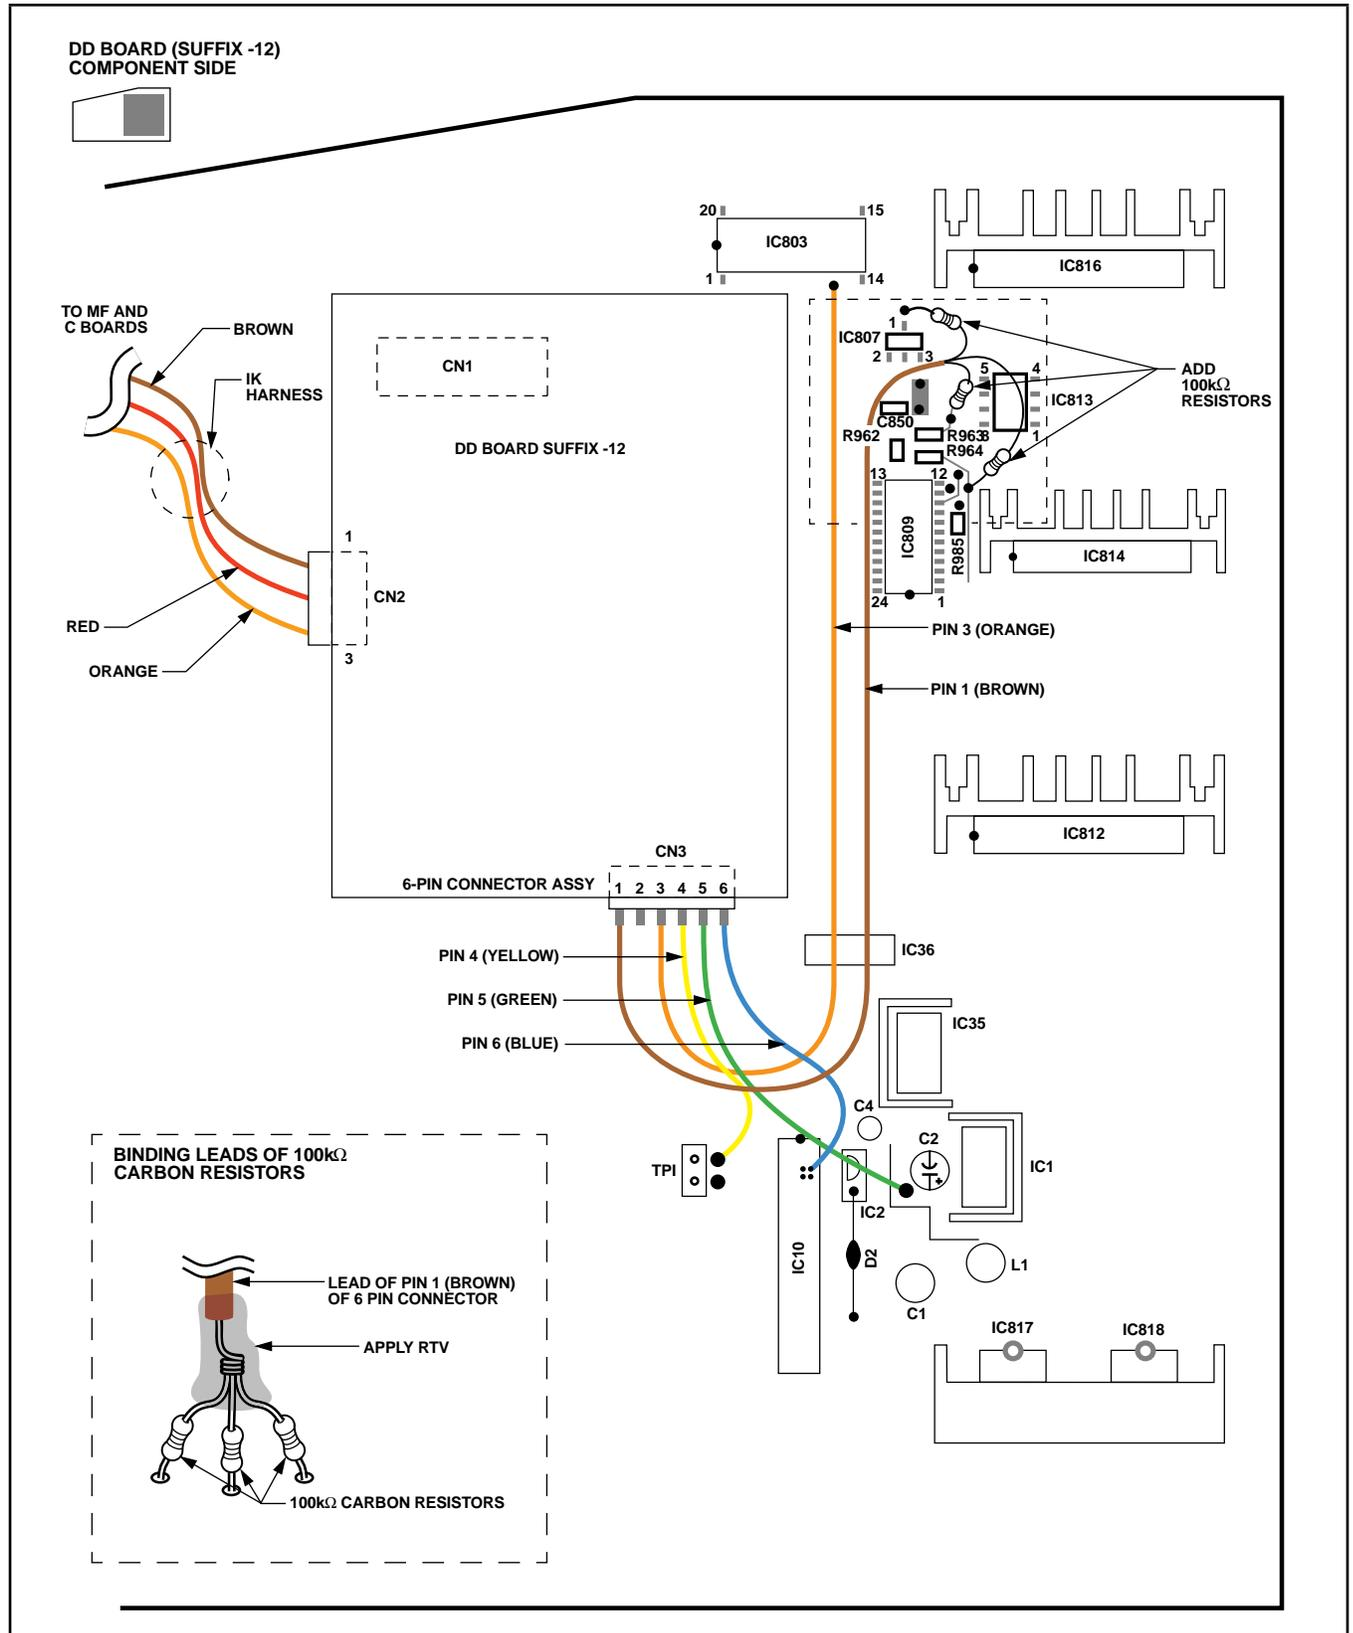

Figure 4
(See Figure 4.)
- d. Twist pin 1 (brown) lead of 6-pin connector assembly around unsoldered leads of carbon resistors, to bind leads together as shown in Figure 4, inset.